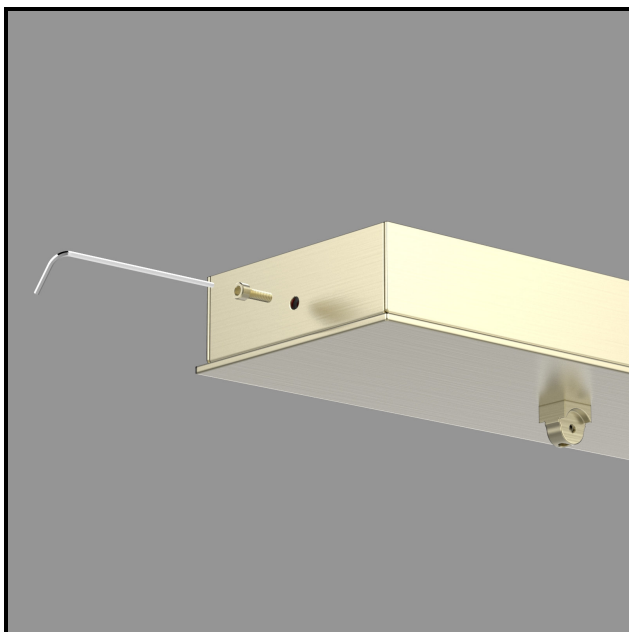

Figure 1
- Using the included hex key, remove the socket head screws from canopy ends. (Figure 1)